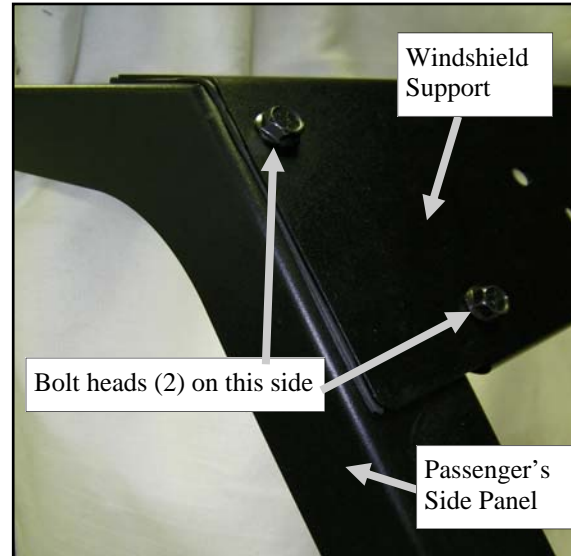

Fig. 4.1 (view of passenger's side)
4.1 With assistance, orient the windshield support as shown in figure 4.1. Fasten to the side panels using the hardware listed below. **Tighten the screws at this time.**